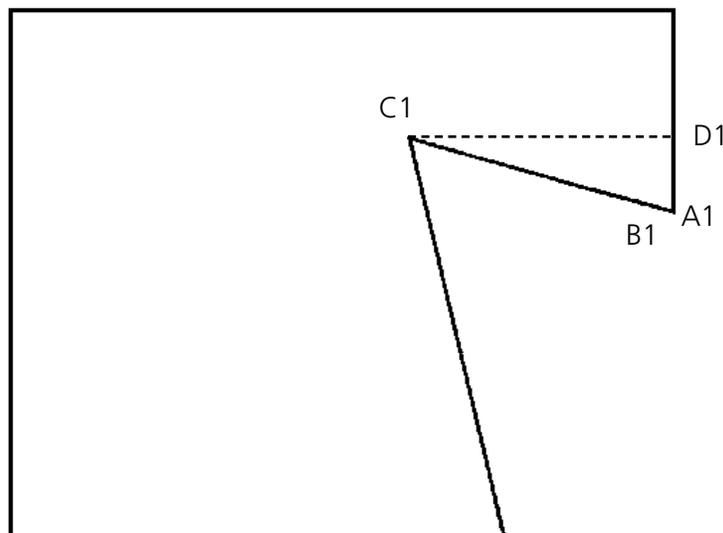

Figure 5-56
5. Enter a Mk1 at A1 in the illustration in Figure 5-56. This will identify the 'A' end of the first line of the first fill.
9. Enter a Mk2 at point B1 as shown in Figure 5-56. This identifies the start of the first side of the fill.
Now, as shown in Figure 5-56, the monitor will display the triangular section you just digitized in a fill pattern that enters at point A1 and exits at point D1. If you want the fill stitching to exit at the left of the triangle, you may interchange points C1 and D1 when you digitize. The fill patterns should overlap slightly to prevent gapping.